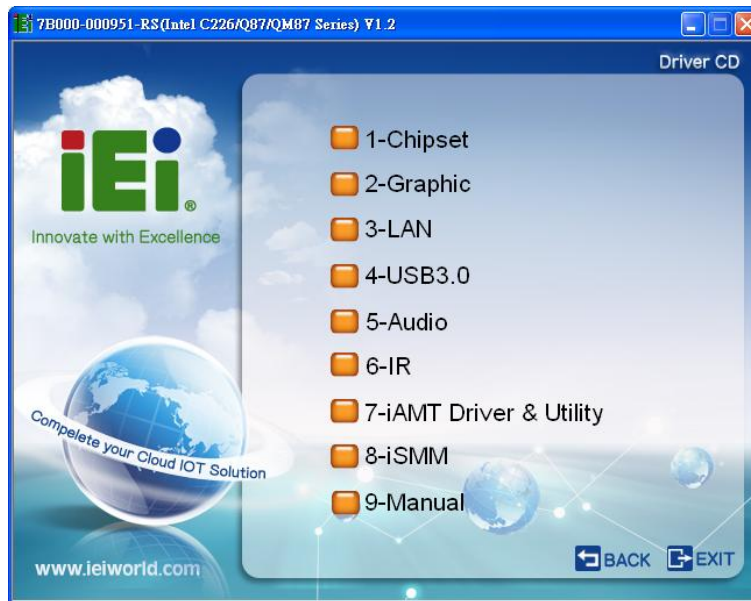

Figure 6-2: Available Drivers
Step 4: A new screen with a list of available drivers appears (Figure 6-2).